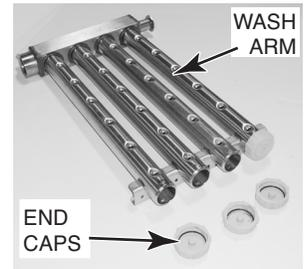

Fig. 31
5. Remove wash arms. Remove wash arm end caps (Fig. 31) and push any nozzle obstructions into the wash arms. Thoroughly flush the wash arms in a sink. Replace the wash arm end caps.